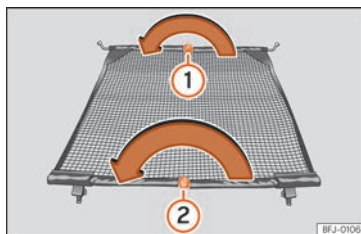

**Fig. 152** Folding in the net partition.
- Press on the release button » **Fig. 152** ① and bend the cross rod in the direction of the arrow with the button pressed.
- Press on the release button » **Fig. 152** ② and bend the cross rod in the direction of the arrow with the button pressed.